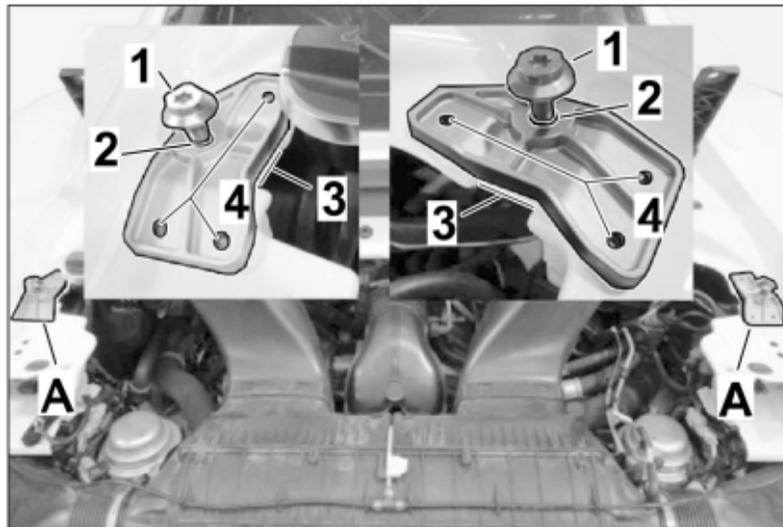

Figure 47
5. – Place the two stiffeners (991.044.806.23) and (991.044.806.24) in the positions shown on the left and right of the rear frame ⇒ *Figure 47 -A-*.
6. – For exact positioning, a fastening screw of the mounting bracket is screwed through the stiffener into the fastening point of the body ⇒ *Figure 47 -1-*.
7. – Align the hole in the component centered around the screw ⇒ *Figure 47 -2-*.
8. – In addition, align the component parallel to the sheet metal edge of the rear frame ⇒ *Figure 47 -3-*.